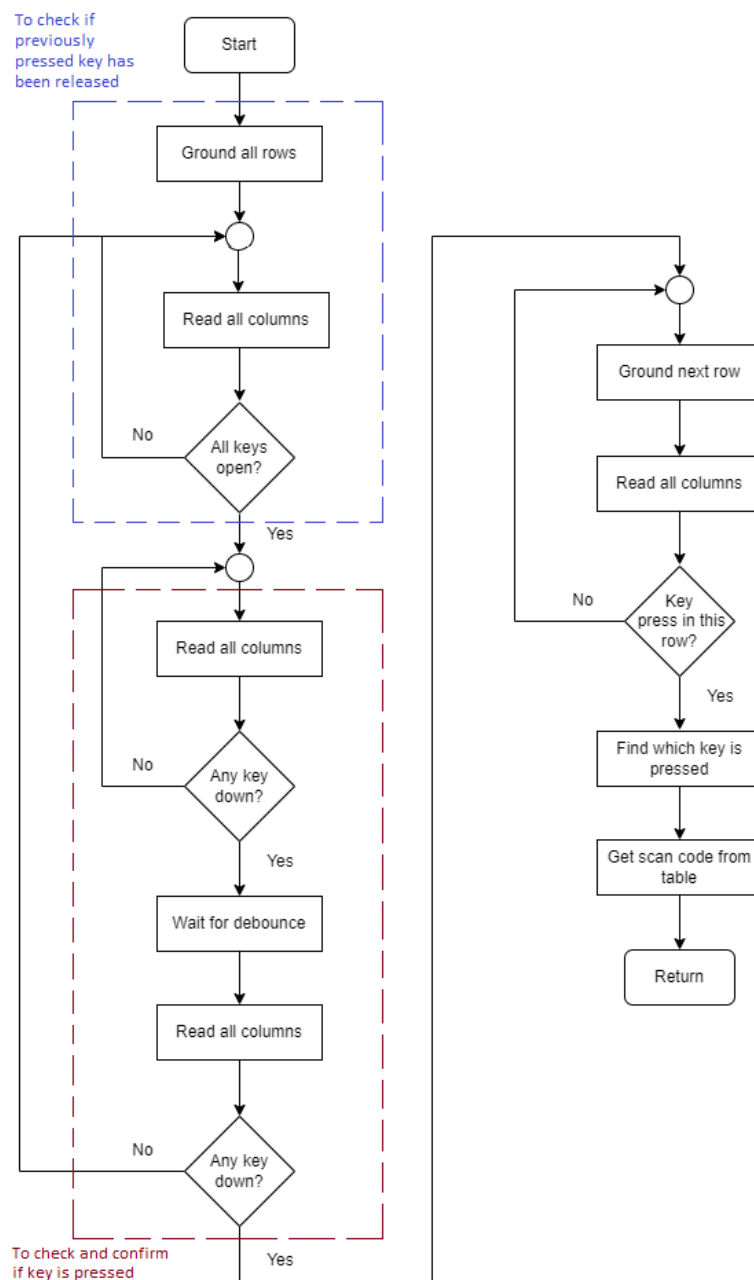

Figure 1: Flowchart describing procedure for reading keys
1. [20 points] The flow-chart in Figure 1 shows the algorithm to read from the keypad.